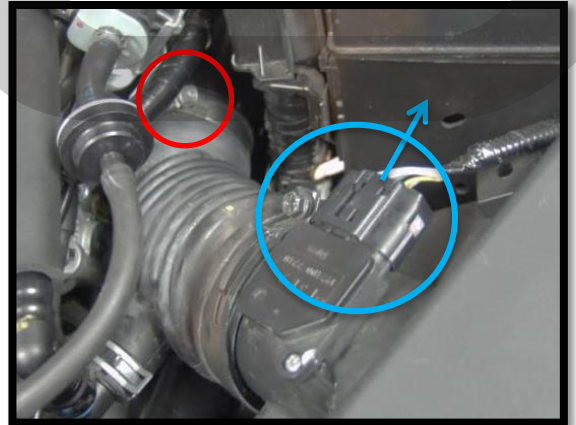

Figure 1b
b) Loosen the 10mm hose clamp that connects the OEM intake elbow to the OEM turbo inlet pipe (TIP). **Circled in red in Figure 1b.**
c) Unplug the MAF sensor connector by pressing down on the upper tab and gently pulling in the direction shown in **Figure 1b**. MAF sensor connector **circled in blue in Figure 1b.**